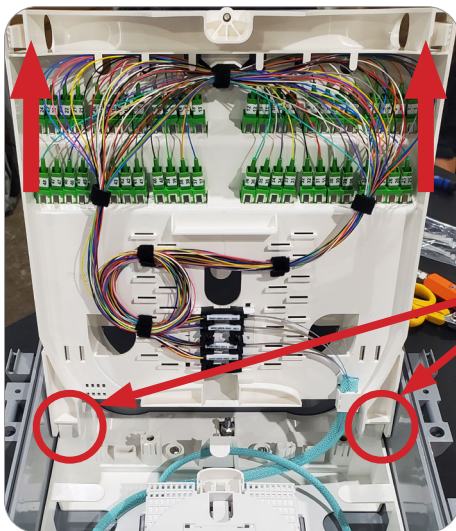

Figure 36
4. Gently pull on the two upper corners interconnect door to release the unit from the hinges (**Figure 36**).